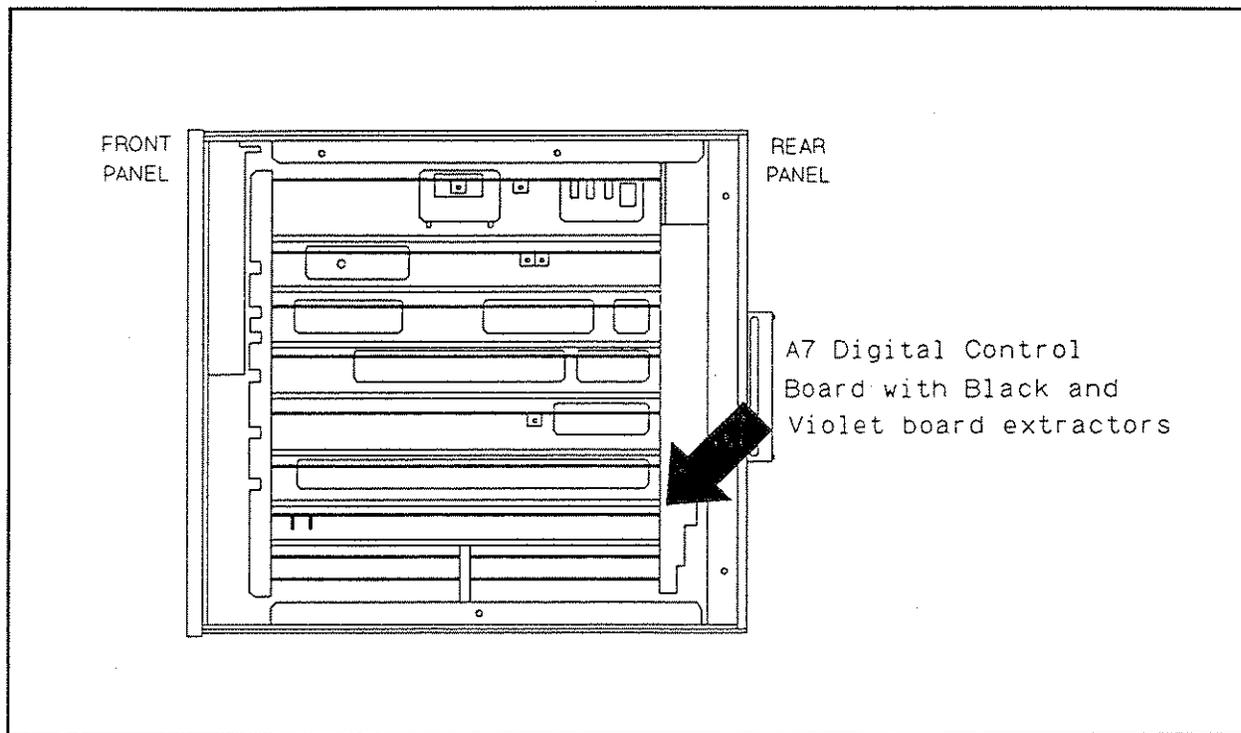

Figure D-1. A7 Digital Board Location
7. Remove the A7 board. Figure D-1 shows the A7 board's location.